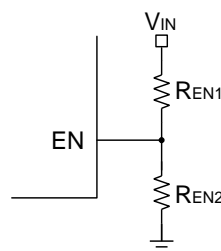

Figure 4: EN Divider Circuit
2. Enable the IC with the configurable V_{IN} under-voltage lockout (UVLO) threshold. With a sufficiently high input voltage (V_{IN}), the chip can be enabled and disabled by the EN pin. With the internal current source, this circuit can generate a configurable V_{IN} UVLO and hysteresis (see Figure 4).